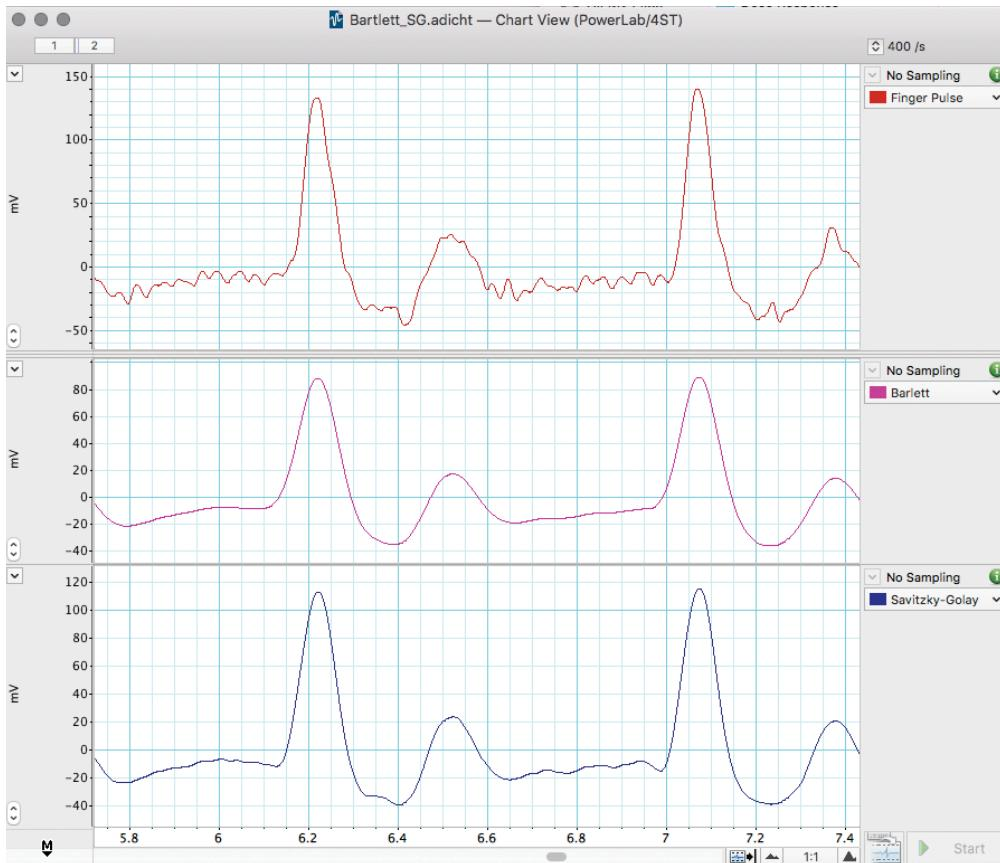

Figure 8 Example used in LabChart Training courses, examining the differing effects of the Bartlett and Savitzky–Golay smoothing functions.
- **Triangular (Bartlett) window smoothing** works by taking the sample point together with a variable number of points on each side in the moving average window, weighting the values (most at the middle, which decreases to zero going out towards the window edges) and averaging them to give the smoothed value at the sample point (Figure 8).